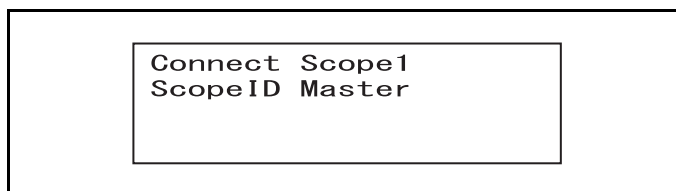

Figure 5.5
- Endoscope without the scope ID card can be manually leak-tested by using the scope ID master card. (Such endoscopes cannot be automatically leak-tested.) However, two of such endoscopes cannot be tested simultaneously. Perform manual leak tests of such endoscopes individually. If the scope ID master card is properly recognized, the screen will display the indicator as shown in Figure 5.5.